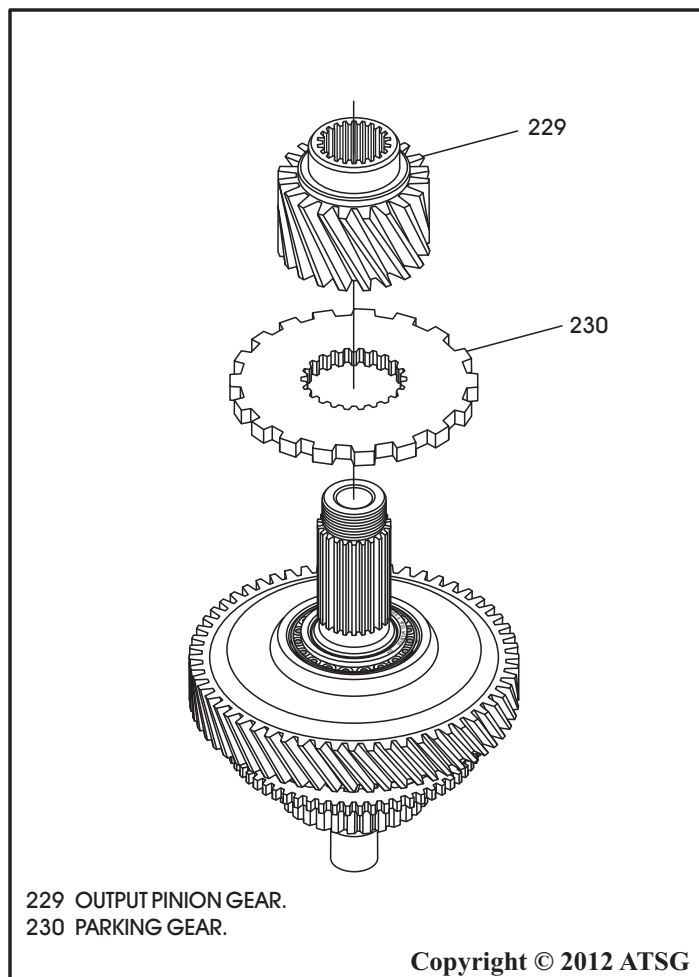

Figure 178
15. Install the parking gear and output pinion gear onto direct planetary carrier shaft, as shown in Figure 178.